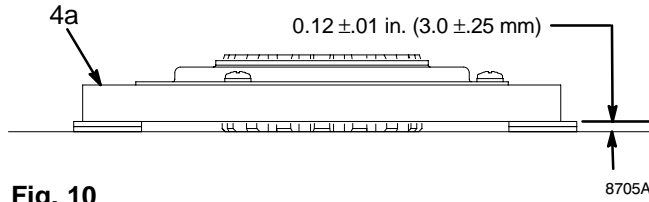

**Fig. 9** 8704A
8. Fig.9. Use an impact wrench or wedge something between armature (4a) and clutch housing to hold engine shaft during removal.
9. Remove four screws (16) and lockwashers (17).